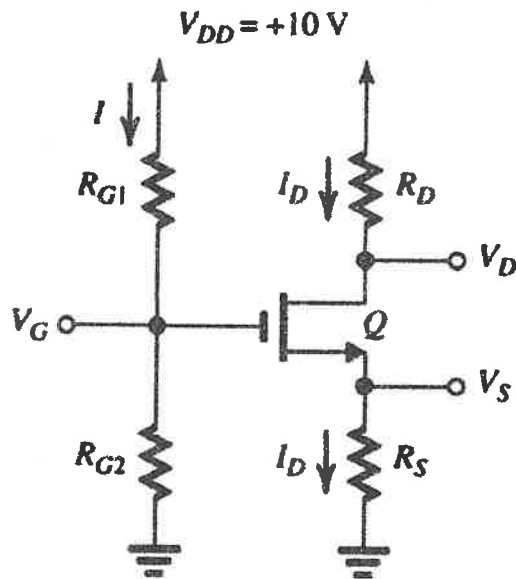

Fig.3 MOSFET circuit diagram
- f) Design the circuit in Fig. 3 to obtain  $I=1\ \mu\text{A}$ ,  $I_D=0.5\ \text{mA}$ ,  $V_S=2\ \text{V}$ , and  $V_{DD}=5\ \text{V}$ . The NMOS transistor has  $V_{th}=0.5\ \text{V}$ ,  $\beta=4\ \text{mA/V}^2$ . (1 Mark)